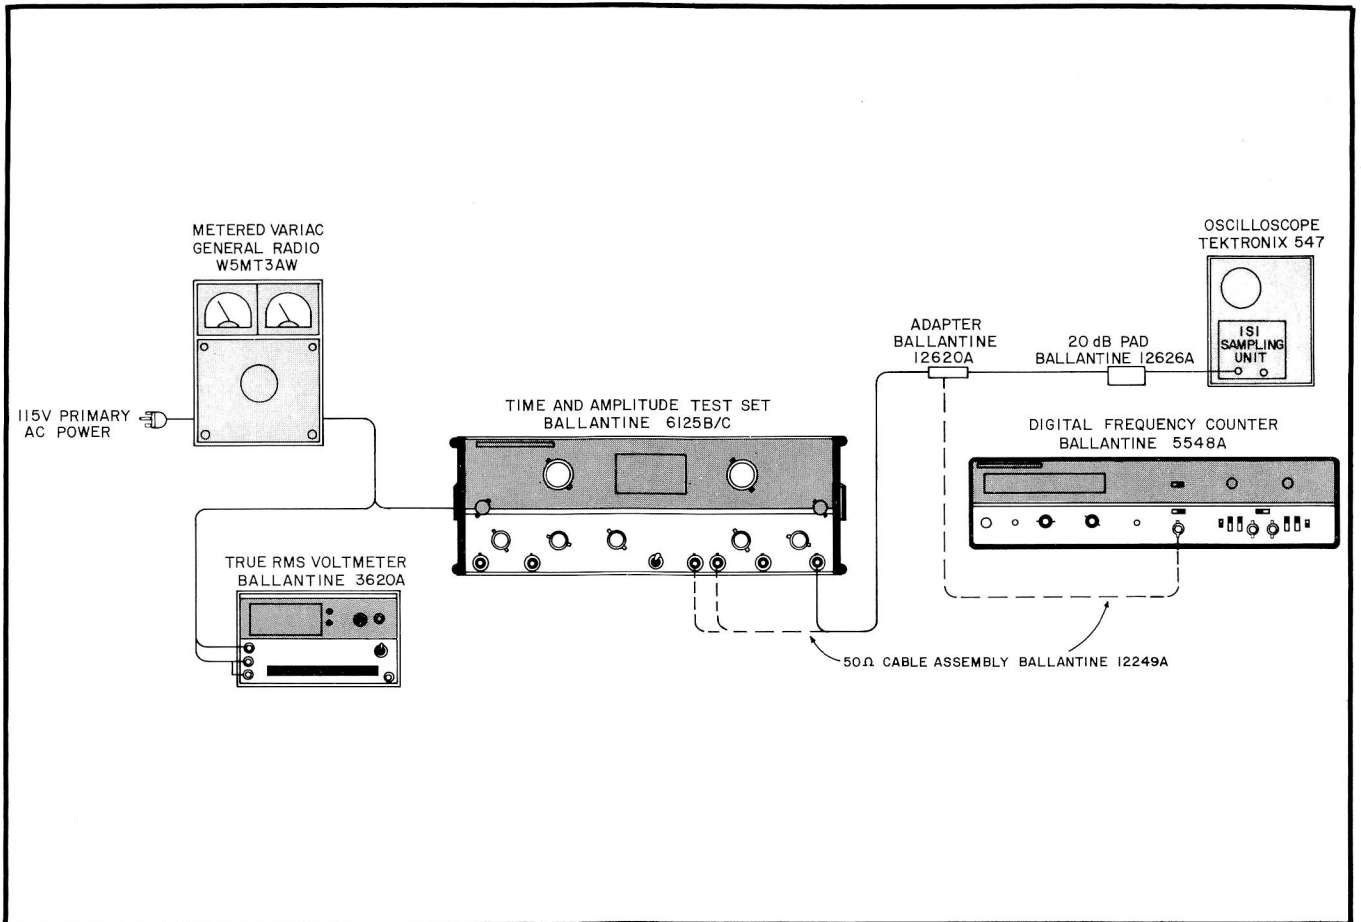

Figure 5-3. Trigger Rise Time and H.F. OUT Check, Bench Test Setup.
as shown in Figure 5-3.
a. Continue with the test setup shown in Figure 5-3. Disconnect the cable from the TRIG OUT connector and reconnect it to the H.F. OUTPUT 5 ns connector. Set the sampling oscilloscope time base to 5 ns per cm and the vertical sensitivity to 20 mV. Obtain a stable sine-wave display on the oscilloscope.
c. Observe a sine wave for each graticule line to indicate that the H.F. OUT frequency is 5 ns. Then, disconnect the short BNC cable from the BNC to GR adapter and connect it into the 50-ohm (C) input of the 500 MHz frequency counter. Set the counter to 1 second for a nine-digit display. Observe that the counter reads in the range of 200,001,601 to 199,998,399 Hz. Reconnect the BNC cable to the oscilloscope.